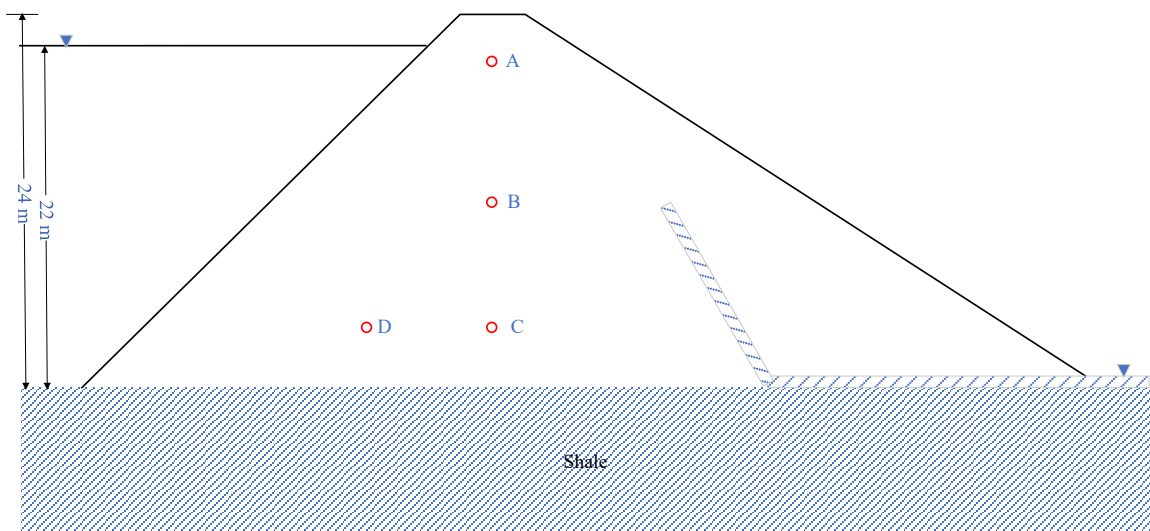

Fig. 1
Supplementary page: Extra copy of Fig. 1 (Question 1)
1 A 24 m high earth dam with a chimney drain was constructed as shown in Fig. 1. The earth dam retains water to a depth of 22 m when the reservoir is full, leaving a freeboard of 2 m as shown in Fig. 1. The dam was built by compacting silty clay and has a saturated unit weight of 19.1 kN m^{-3} , voids ratio of 0.6 and a hydraulic conductivity of $4.6 \times 10^{-7} \text{ m s}^{-1}$. The silty clay has an air entry value of -100 kPa. You may assume that the drain has infinite hydraulic conductivity relative to the silty clay. An impermeable shale rock is present below the dam as shown in Fig. 1.
- (a) Draw a flownet for seepage through the earth dam on the copy of Fig. 1 provided in the attachments. This sheet must be handed in with your answer. Draw attention to any shortcomings in your solution. [20%]
- (c) Estimate the pore water pressures within the dam at locations A, B, C and D shown in Fig. 1. Calculate the vertical effective stresses at points A, B and C. [25%]